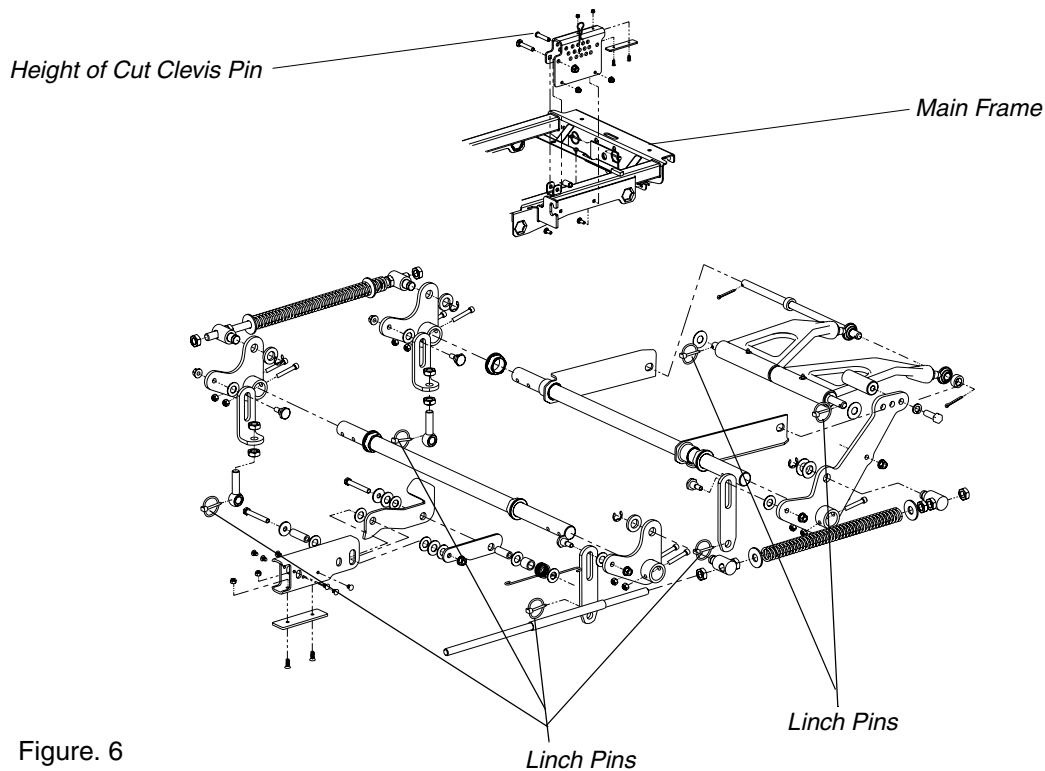

Figure. 6
- e. Remove six linchpins (See Fig. 6) (4) from the deck and (2) from the front of the mower. Remove the linchpins on the left and right rear